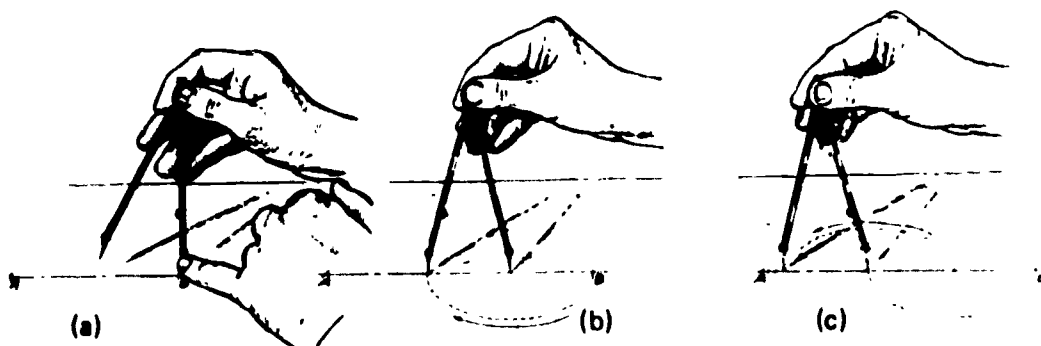

FIGURE 1
- C. Swing the divider clockwise to the second point on the line (Figure 1-b)
- D. Swing the divider counterclockwise to the third point on the line (Figure 1-c)